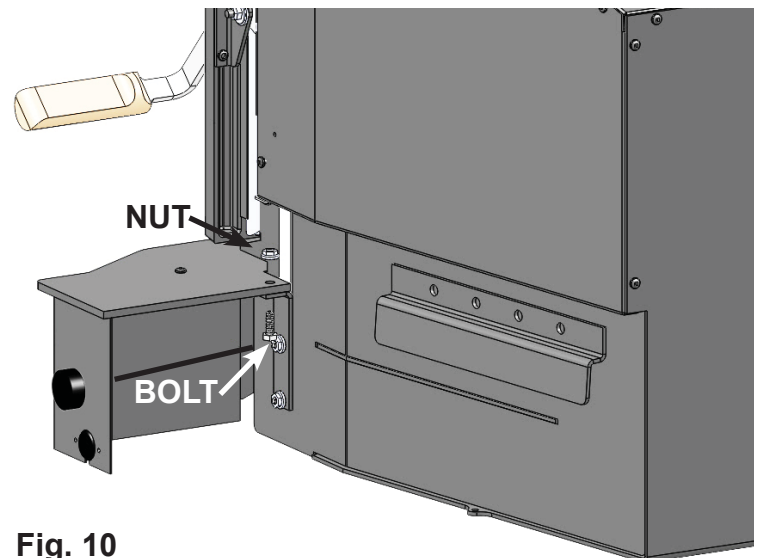

Fig. 10
5. Once aligned, fasten together using a 7/16" wrench, one 1/4-20 bolt and one 1/4-20 flange nut per side. (**Fig. 10**)